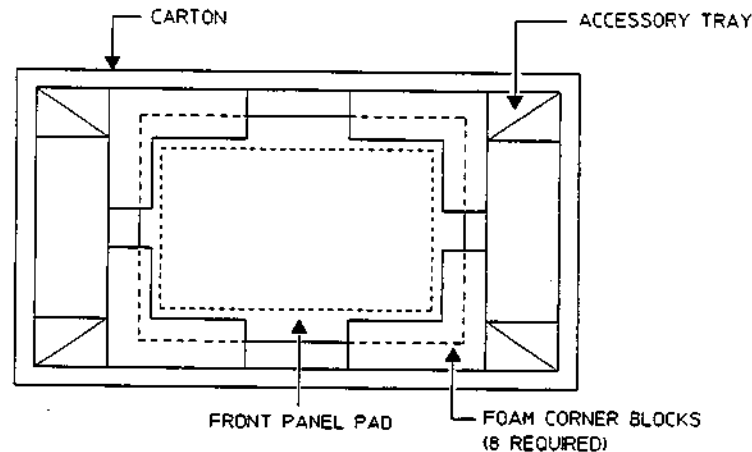

Figure 1-8.
- Containers and materials identical to those used in factory packaging are available through Hewlett-Packard offices, see figure 1-8. If the analyzer is being returned to Hewlett-Packard for service, attach a tag describing the type of service required, the return address, model number, and full serial number. Also, mark the container **FRAGILE** to ensure careful handling. In any correspondence, refer to the analyzer by model number and full serial number.